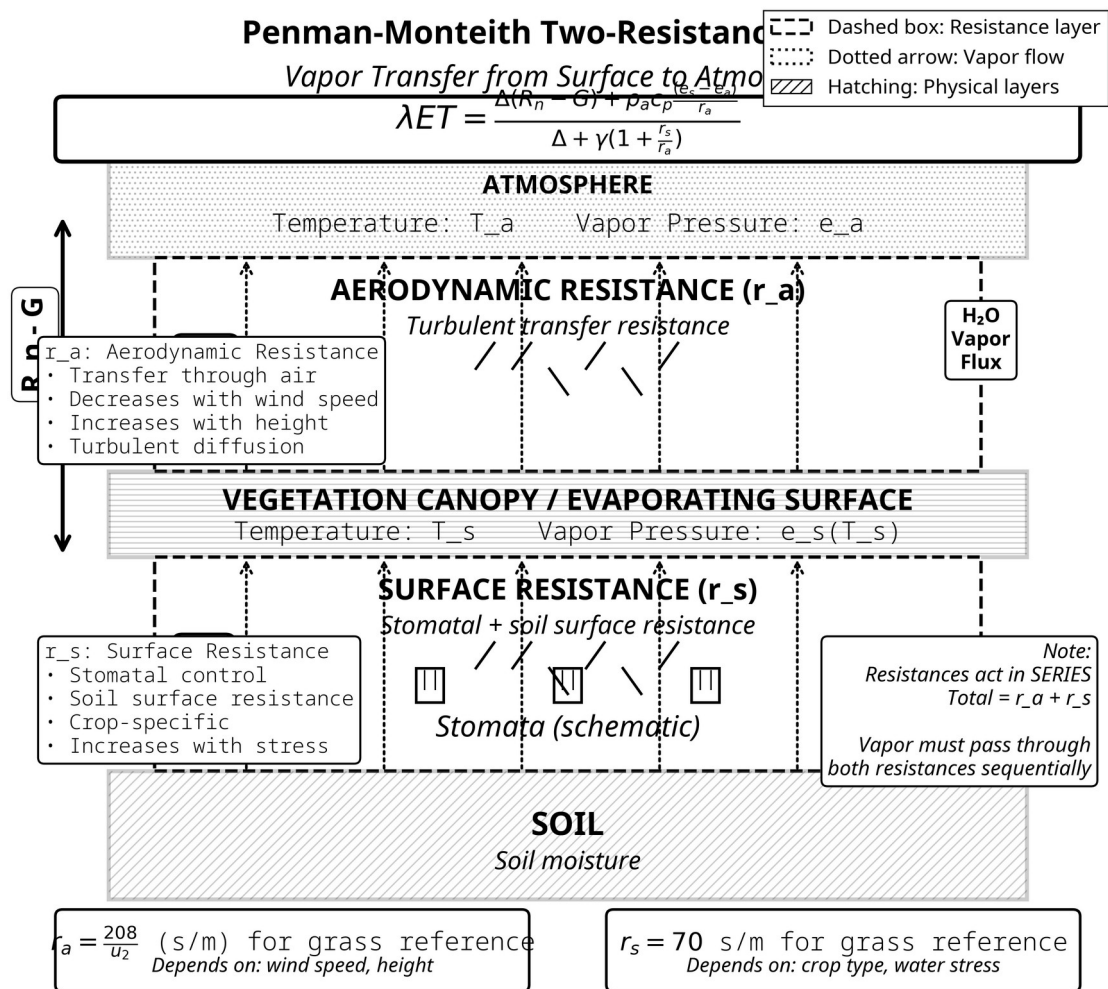

Figure 2.1: Penman-Monteith Two-Resistance Model
**Figure 2.1:** The Penman-Monteith two-resistance model showing aerodynamic resistance ( $r_a$ ) from the canopy to the atmosphere and surface resistance ( $r_s$ ) from stomatal and soil controls. Vapor flows from the vegetation surface through these resistances in series.